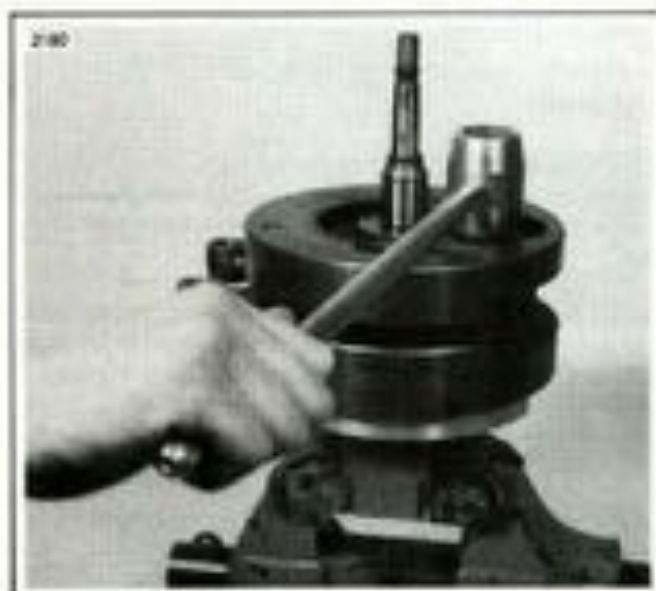

Figure 3-45. Removing Crank Pin Nut
1. Place flywheels in flywheel holding fixture and remove crank pin nut using FLYWHEEL NUT WRENCH, Part No. HD-94546-41, as shown in Figure 3-45. To loosen flywheel, strike right flywheel rim with soft metal mallet at 90 degrees to crankpin. Remove right flywheel and gear shaft assembly. Remove crank pin key (11, Figure 3-45).
2. Hold down bearing assembly with a short length of pipe or tubing so connecting rods (3) may be slipped off bearings. Remove bearings (4). Hold together in set until bearings are washed and re-fitted to crank pin.